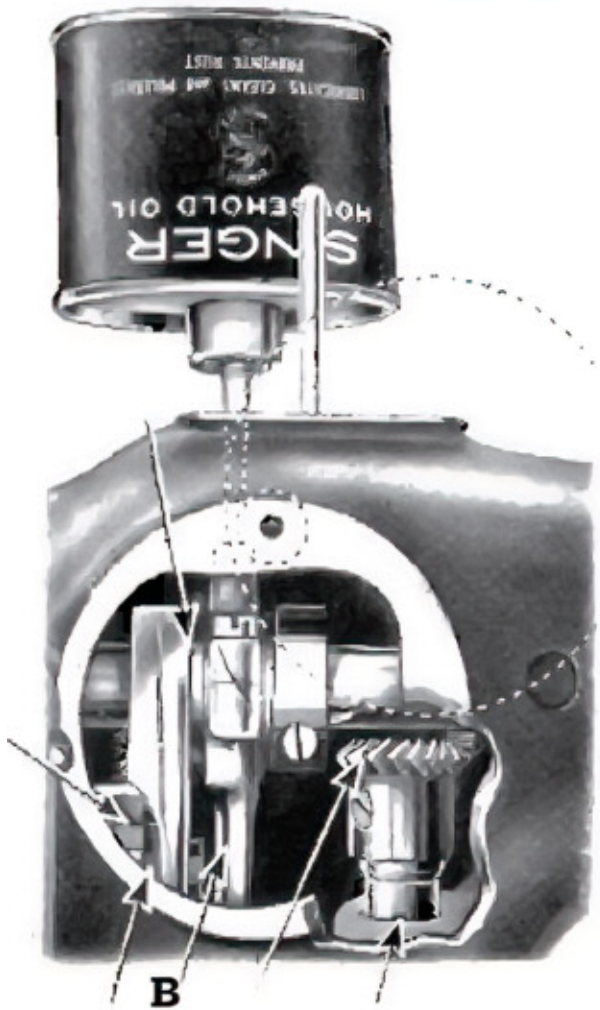

FIG. 66. OILING POINTS AT THE BACK OF THE MACHINE (ARM BROKEN AWAY TO SHOW OIL HOLE)
Loosen the thumb screw at the rear side of the machine and turn aside the cover plate as indicated by the dotted line in Fig. 66. Rotate the balance wheel until the connecting rod indicated by (B) in Fig. 66 is at its highest position. Apply a few drops of oil, through the hole in the top of the machine, to the wick which is retained in the cap of the connecting rod as indicated in Fig. 66. Also oil the other moving parts and oil hole inside the machine arm, then turn the cover plate to its original position and fasten it by tightening the thumb screw.